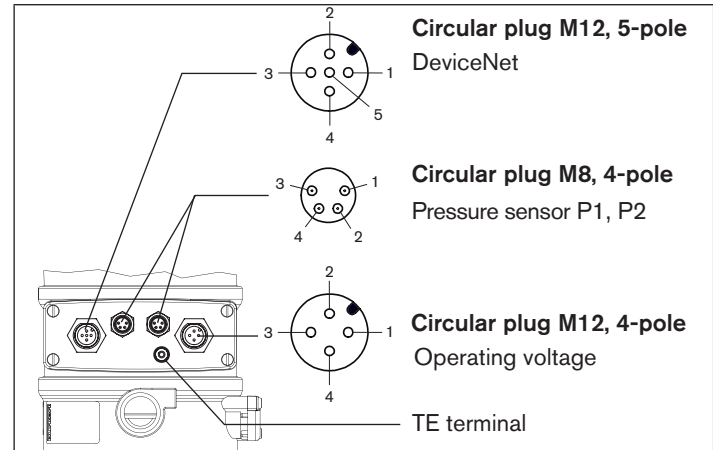

Fig. 14: Connection with DeviceNet
→ Connect the process controller according to “Fig. 14” and “Tab. 13”, “Tab. 14”, “Tab. 15”.
The electrical connection module of Type 8693 features a setscrew with nut which is used to connect the Technical Earth (TE) (see “Fig. 14: Connection with DeviceNet”).